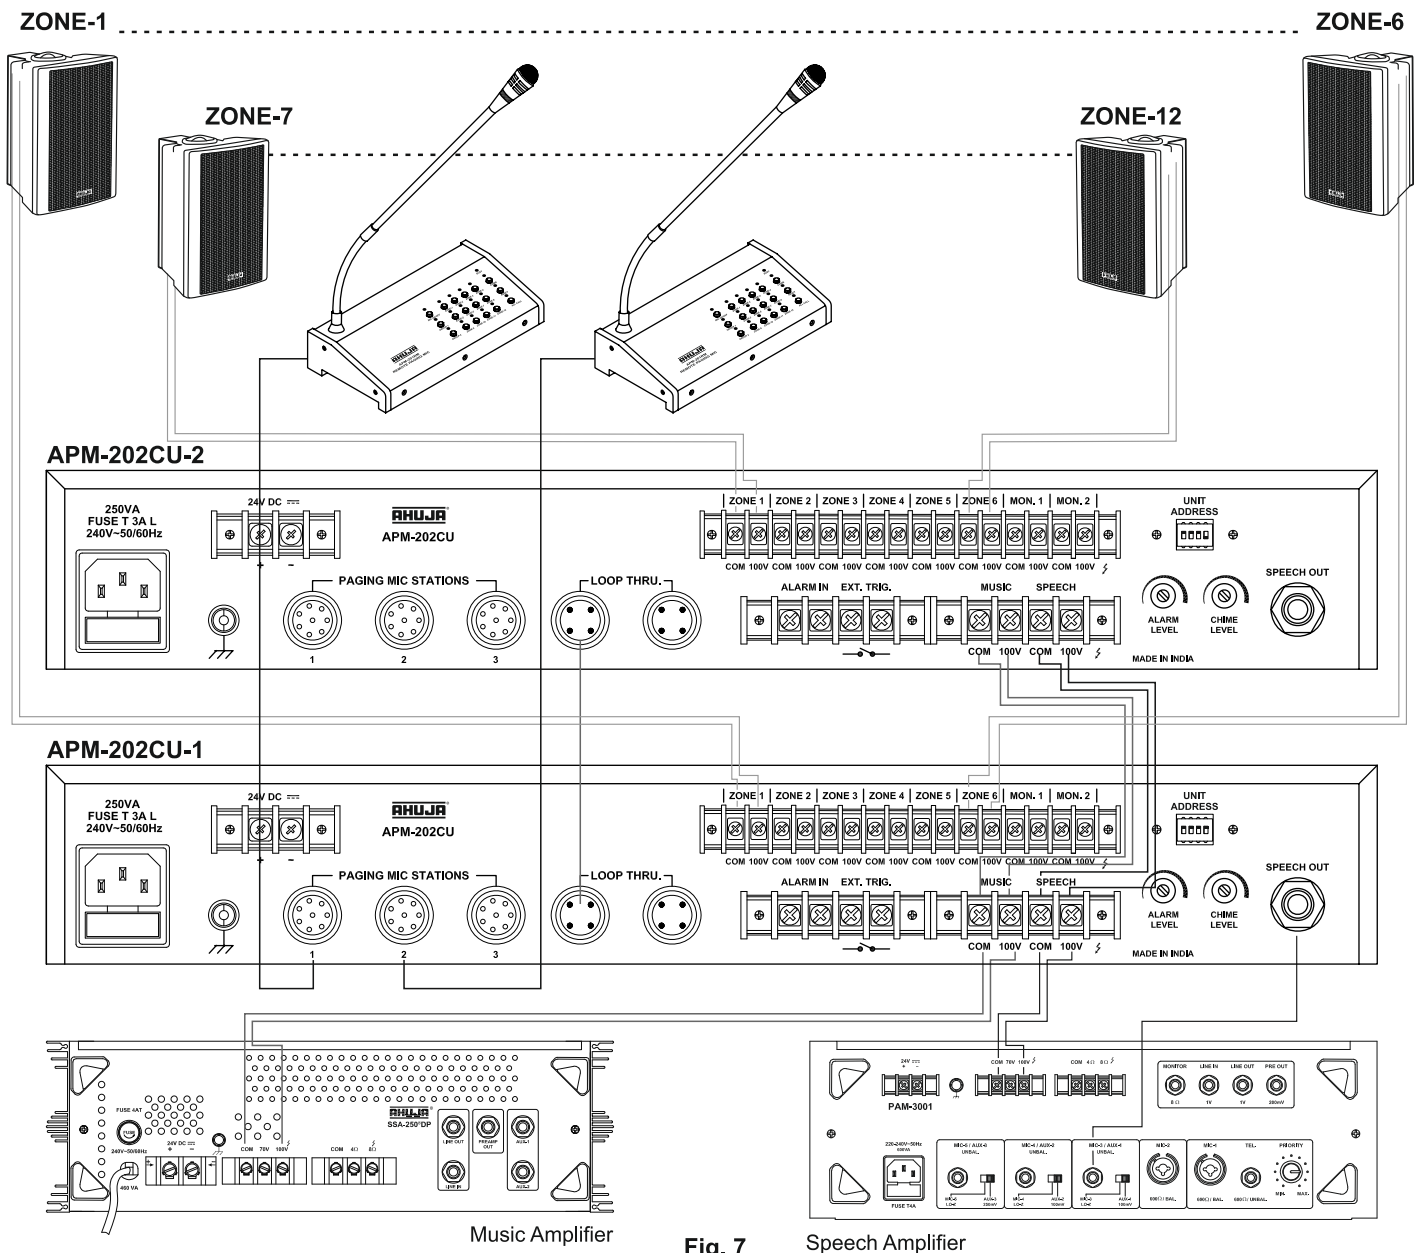

Fig. 7
- APM-202CU is a 6 Zone Control Unit. To make a 12 zone system, two nos. APM-202CU have to be used. The two nos of APM-202CU have to be connected together using the 4 pin sockets marked LOOP THRU on the rear panel of the Control Unit. See Fig.7, (Pin connection of 4 core cable as shown in Fig.3).
- Each control unit will have different address ID. Address IDs can be set by UNIT ADDRESS DIP switches given on rear panel of each control unit APM-202CU. The Control Unit to which the Remote Paging Mics are connected is called the Master Unit. All four DIP switches on the rear panel of Master Unit should be in UP position. The other Control Unit is the Slave Unit. For this, the last DIP switch should be in DOWN position, while the other three should remain in UP position. Interconnection of 12 zones system is shown in Fig. 7 on page no. 11.